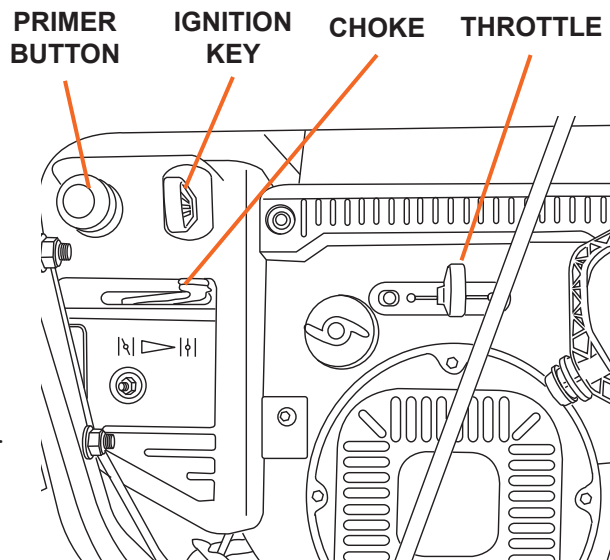

Figure 9
1. To start a cold engine, move the choke to the **CHOKE** position (to the left). To restart a warm engine, leave the Choke in the **RUN** position (to the right). (See Figure 9).